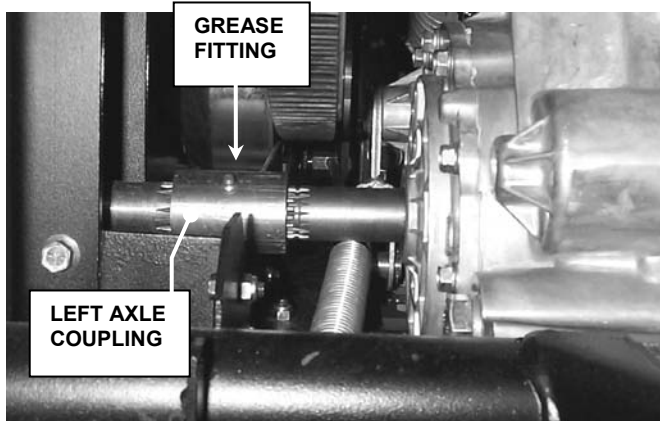

FIGURE 3.4
3. Locate grease fitting on left axle coupling. See Figure 3.4.